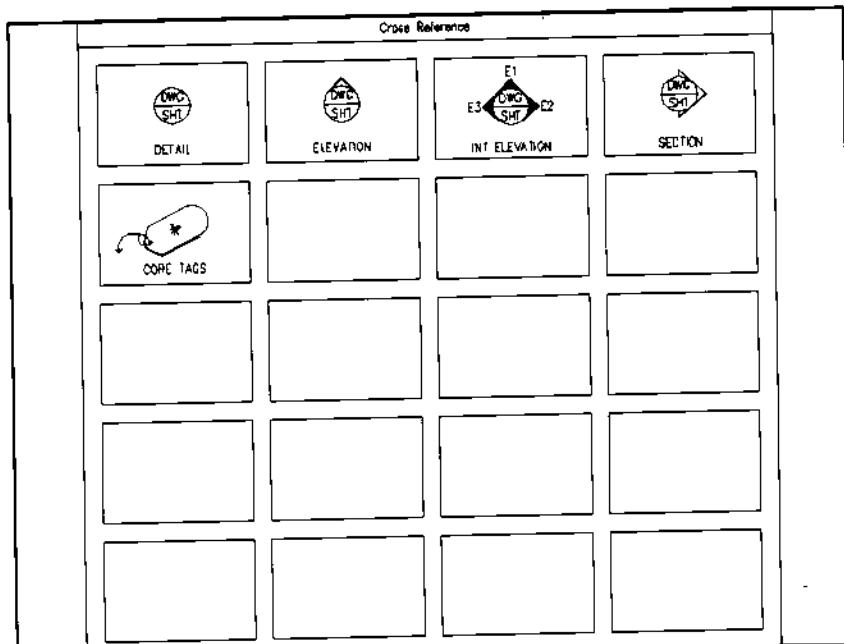

Figure 8.
- Figures 8 through 13 show some Tag icon menus from the Draw pulldown menu for cross references, grids, line types, miscellaneous tags, notes, and polygons with text.